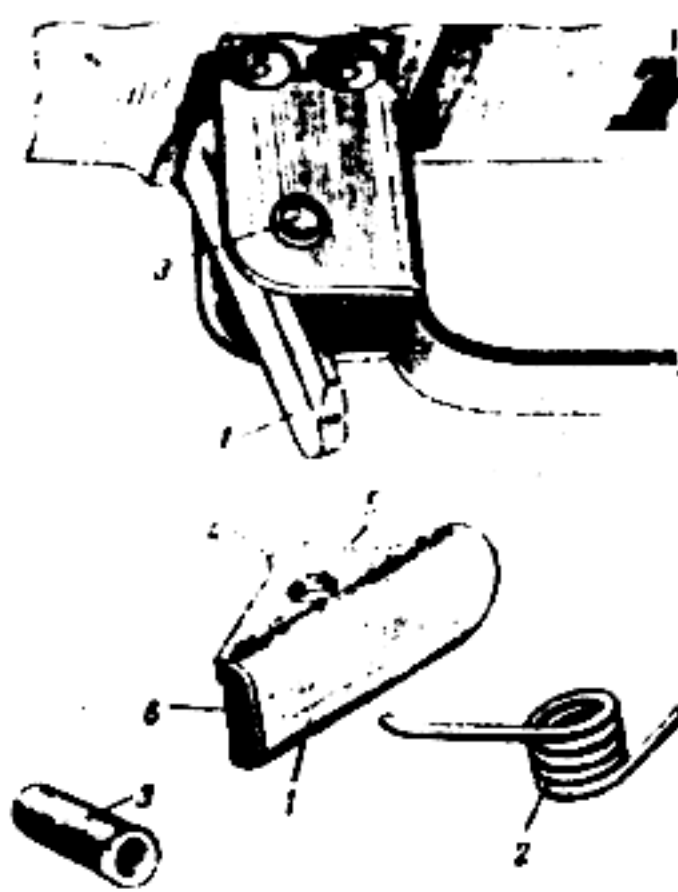

Figure 13. Magazine catch, assembled and disassembled.
The magazine catch (fig. 13) with spring serves to hold the magazine in the receiver. It consists of a catch (1), spring (2) and pin (3).